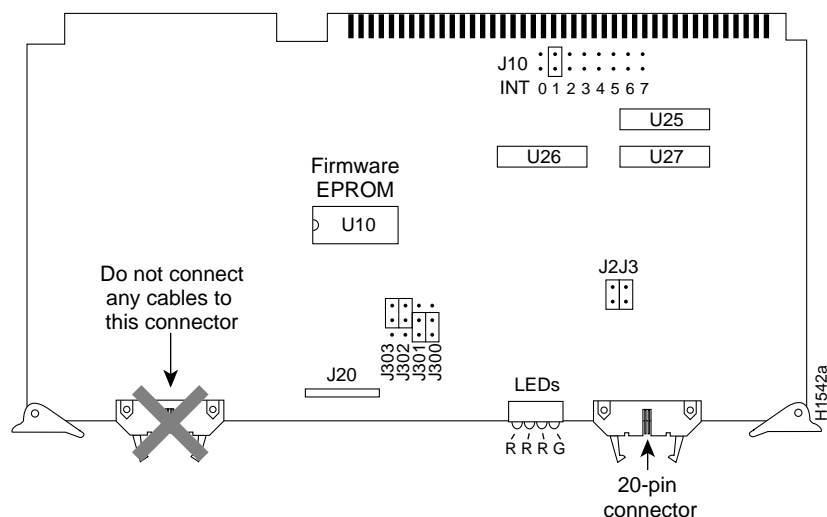

Figure 5-27 CSC-ENVM Environmental Monitor Card—Component-Side View
- CSC-ENVM environmental monitor card, Figure 5-27